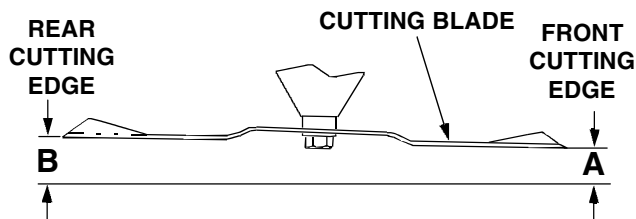

Figure 5-9
3. Refer to Figure 5-9. Measure and record the distance from the front cutting edge to the ground (measurement A), and from the rear cutting edge to the ground (measurement B), for each of the blades. The front edge of each blade (measurement A) should be lower than its back edge (measurement B) by 1/8 to 1/4 inch.